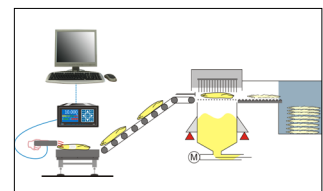

Figure 10. The check on weight of incoming raw material in bags.
- adding of incoming raw materials to the stock, see figure 10